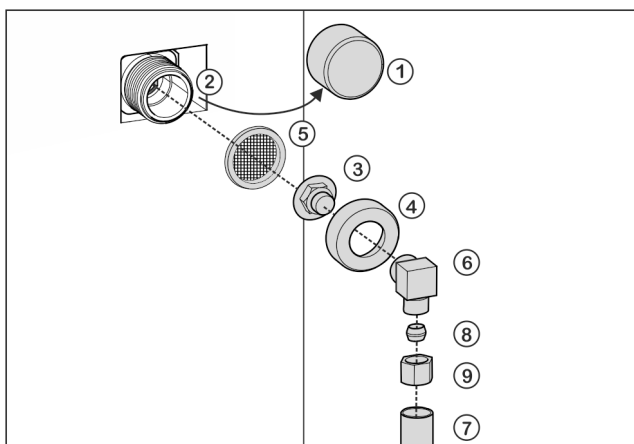

Fig. 26
- Remove cap *Fig. 26 (1)* from solenoid valve *Fig. 26 (2)*.
- Insert coupler *Fig. 26 (3)* into union nut *Fig. 26 (4)*.
- Insert the filter *Fig. 26 (5)* with the recess pointing down towards the coupler *Fig. 26 (3)*.
- Screw the union nut *Fig. 26 (4)* by hand onto the thread of the solenoid valve *Fig. 26 (2)* until it is firmly in place.
- Screw on angle piece *Fig. 26 (6)*.
- Connect the water pipe *Fig. 26 (7)* (e. g. 1/4" OD copper pipe) with the clamp ring *Fig. 26 (8)* and nut *Fig. 26 (9)* to the elbow connector *Fig. 26 (6)*.
- If necessary: Fasten the water pipe *Fig. 26 (7)* to the housing with the guide clip.
- Put angle piece *Fig. 26 (6)* to one side.
- Connect the water pipe *Fig. 26 (7)* (e. g. 1/4" OD copper pipe) with the clamp ring *Fig. 26 (8)* and nut *Fig. 26 (9)* to the coupler *Fig. 26 (3)*.